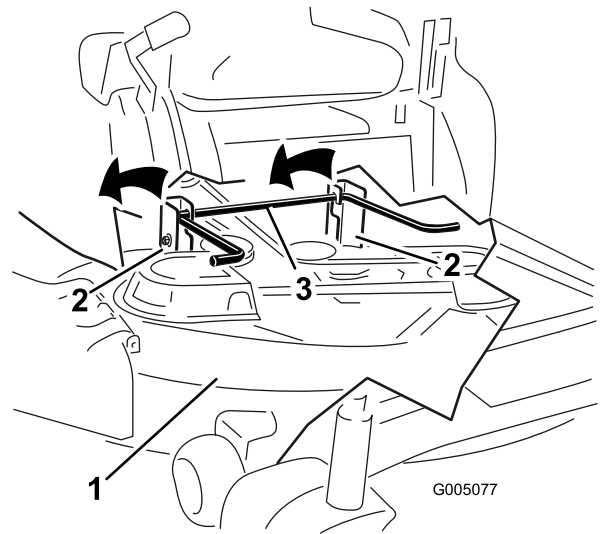

Figure 57
5. Lift the mower deck and hanger brackets clear of the rear lift rod and lower the mower carefully to the ground (Figure 57).
5. Lift the rear of the mower deck and guide the hanger brackets over the rear lift rod (Figure 57).